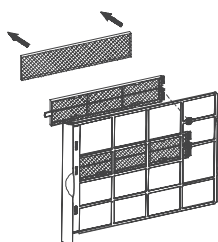

Fig. 20
- Replace the two filter elements and secure them in the frames (See Figure 20).